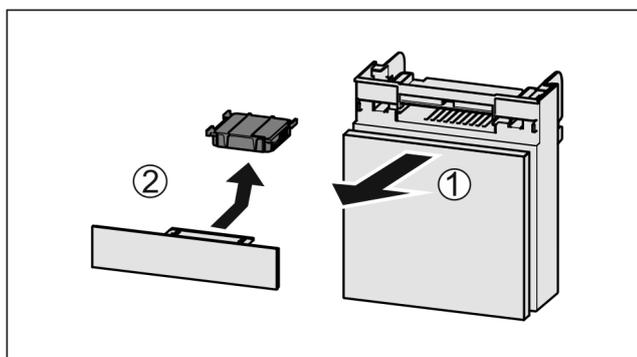

Fig. 128
- ▶ Pull out the compartment *Fig. 128 (1)*.
- ▶ Remove the carbon filter *Fig. 128 (2)*.